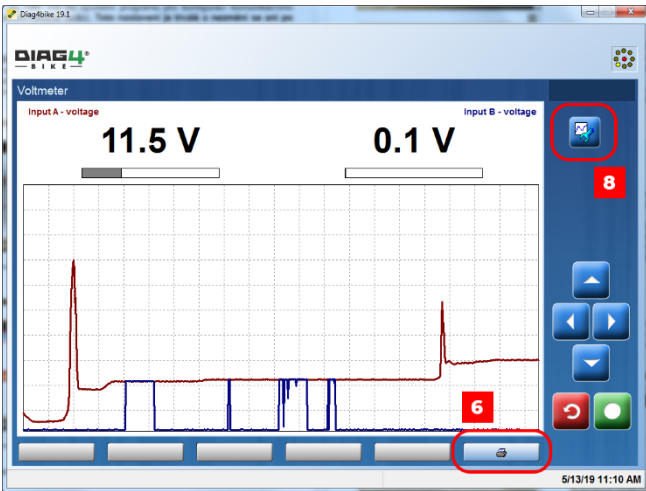
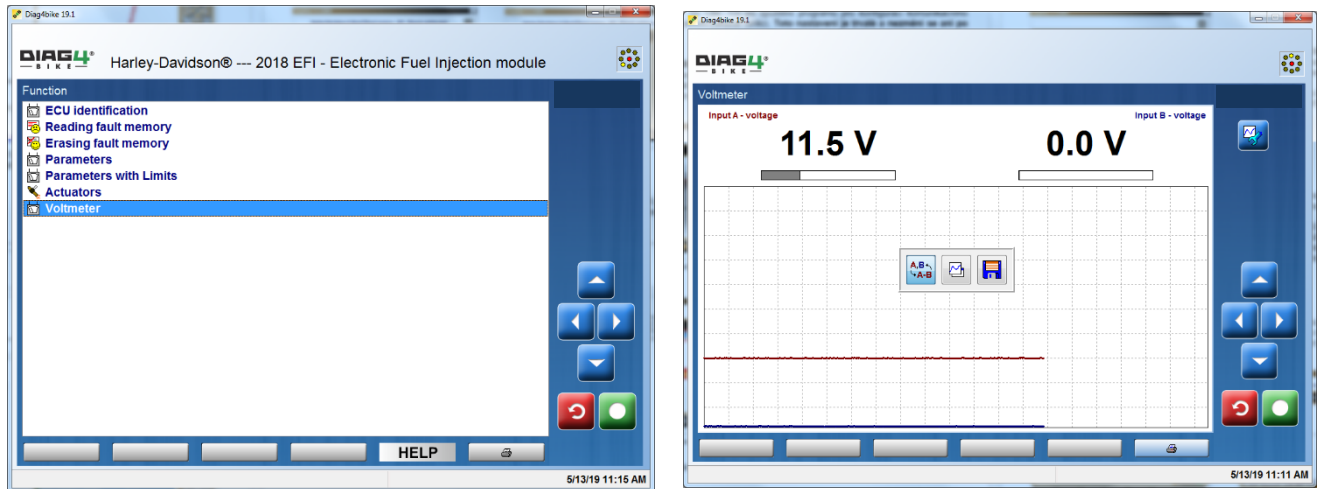

Fig. 40 – Example of measuring with voltmeter in two channels. (illustrative picture)
Fig. 42 – Example of voltmeter measuring with a running engine (illustrative picture)
When the analog measuring is enabled (see Chapter 9.5.2/A), then after clicking the button at pos. 1, Fig. 35 the measuring itself is started (see Fig. 40). In this case the voltmeter measures voltages in two channels (A, B) against the ground.
When connection to the motorcycle is created, diagnostics is started, and communication is established, the Voltmeter function can be selected (see Fig. 42 and Fig. 40).